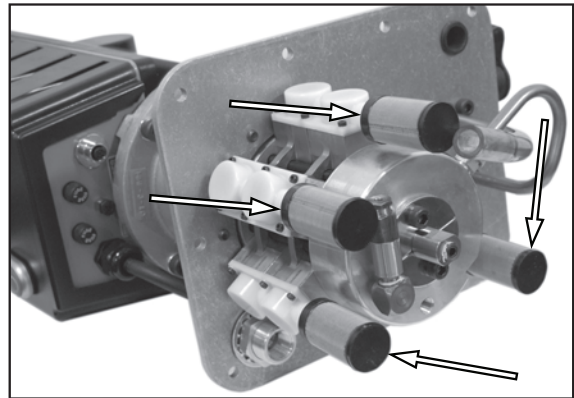

Figure 5.
12. See Figure 5. Replace the inlet suction filters.